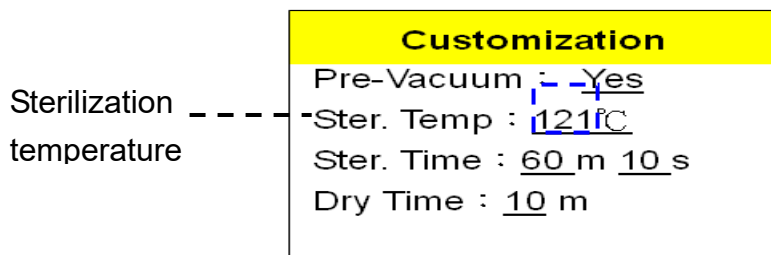

Figure 64
- Press  button to store sterilization temperature parameter as shown in Figure 64.